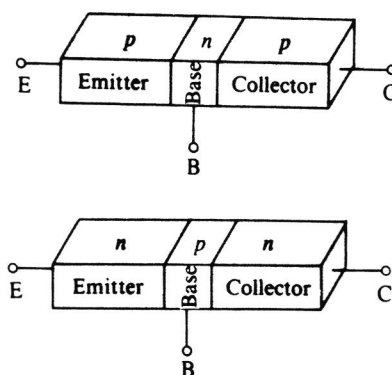
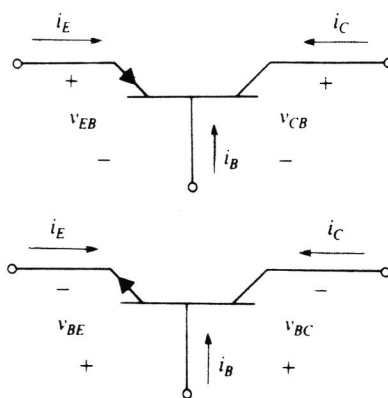

Figure 1. Two types of Junction Transistors, PNP and NPN respectively, shown in block-like illustrations.
Figure 2. PNP and NPN transistors shown as circuit elements.
**A** — A BJT consists of a silicon (or germanium) crystal in which a p-layer is sandwiched between two n-layers, or an n-layer is sandwiched between two p-layers. The first type is an npn transistor and the latter is a pnp type. The three regions of a transistor are called the emitter (E), base (B), and collector (C). Figure 1 shows the two types of BJT transistors and Figure 2 shows them when they are used as circuit elements. The arrow on the emitter shows the direction of current when we forward bias the emitter junction. Typically the arrow points inwards for a pnp transistor and outwards for an npn transistor. When the currents flows into the transistor, they